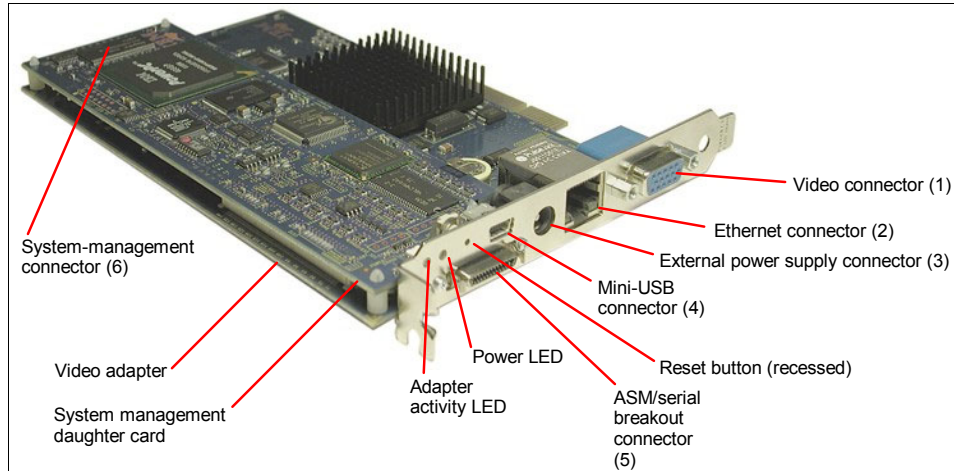

Figure 3-1 External connectors and indicators of the RSA II
The RSA II has the following connectors (the numbers refer to Figure 3-1):
- ▶ Video connector (1 in Figure 3-1). The RSA II contains an additional video subsystem on the adapter. If you install the RSA II in a server, it will automatically disable the onboard video. You should connect the server's monitor to the RSA II video connector.
- ▶ 10/100 Ethernet connector (2). For connection to a 10 Mbps or 100 Mbps Ethernet-based client LAN or management LAN.
- ▶ Power connector (3). You still can access the RSA II if the server is powered down when you use the external power supply (supplied when the adapter is purchased as an option). Connect the power supply to a different power source as the server (for example, a separate UPS).